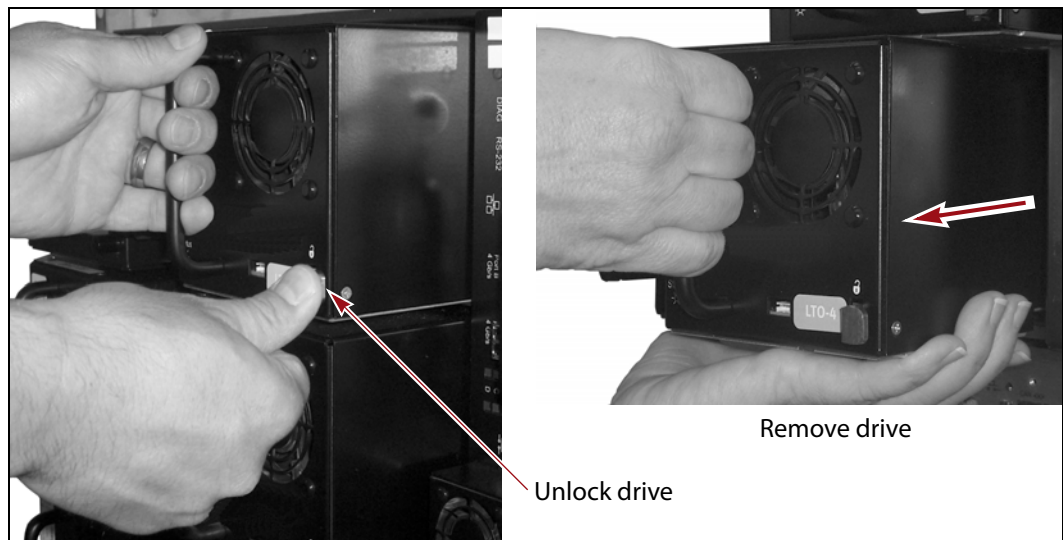

Figure 6 Release the drive lock and remove the drive.
Note: Depending on the type of drive, the drive lock may look different from the one shown in Figure 6.
- b. While supporting the bottom of the drive sled, pull outward on the drive sled handle to remove the drive from the library (Figure 6).